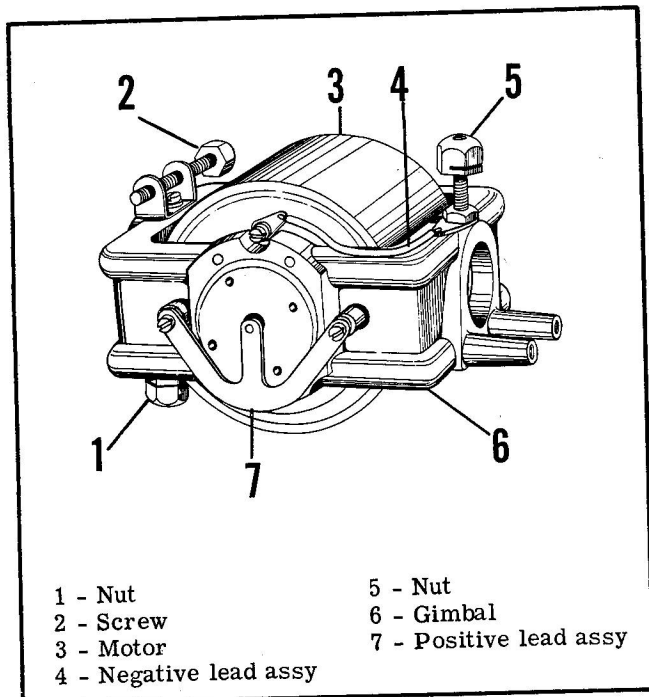

Figure 2-5. Gyro Motor Assembly
h. Lift the gyro motor assembly out of frame (123). (See figure 2-5 for illustration of complete assembly.) Lift the motor assembly straight out to avoid binding ball bearing (56) on contact pivot assembly (120) in the frame. Remove two screws (64), and washers (65). Lift off clamp (63), and positive lead assembly (66). Remove two screws (70), and washers (71). Lift gimbal end (69) off the gimbal and the ball bearing of the rotor assembly. Remove one set screw (61), and plug (62). Remove motor adjustment nut (67), with "O" ring packing (68).
i. Carefully pull rotor assembly (72) from the stator. Remove ball bearings (75), and spacer (76) from the rotor shaft. Remove two screws (74), and lift out governor support assembly (73).
j. Remove trimmer screw (77), and support (78). Remove trimmer nuts (81), lead assembly (84), and trimmer studs (88). Remove positive lead assembly (57), and insulators (58). Remove set screw (61), and plug (62), and remove motor adjustment nut (67), with "O" ring packing (68). Lift magnet housing (90) from the gimbal. Remove negative and positive brush arm support assemblies (92), and (100). Remove brush arm assemblies (95), and (101) from their support assemblies. Do not attempt to remove magnet (89) from magnet housing (90). These parts become mated in original assembly. Pull ball bearings (56) from gimbal (106).
2-27. **REASSEMBLY OF GYRO MOTOR ASSEMBLY.** (See figure 2-5 for illustration of complete assembly.)